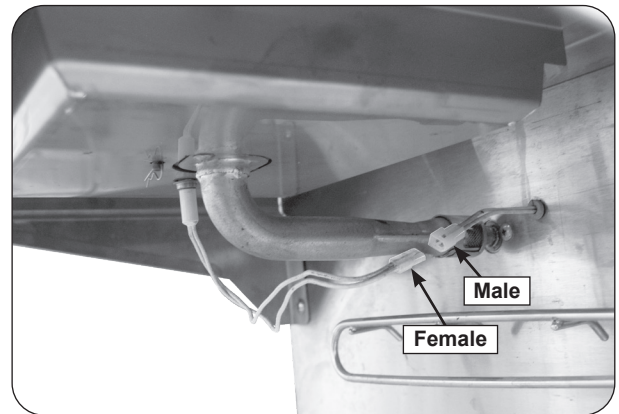

Fig. 29-1 Igniter wire connection
4. Connect the female connector on the end of the hot surface igniter wire to the male connector coming from inside the grill. See Fig. 29-1.